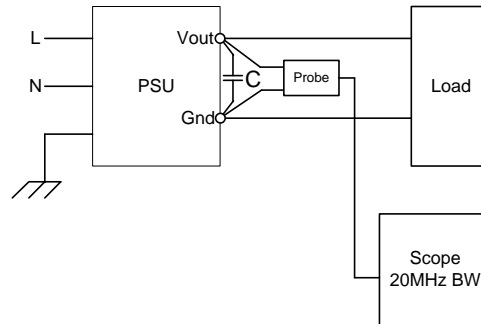

Figure 6. Output Ripple Test Setup
- Outputs bypassed at the point of measurement with a parallel combination of 10 $\mu$ F tantalum capacitor in parallel with 0.1 $\mu$ F ceramic capacitors, referring the setup in *Figure 6*.